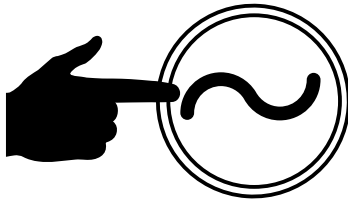

Figure 46. Contactor Close Button (Manual Mode)
16. Press the contactor **CLOSE** button (Figure 46).